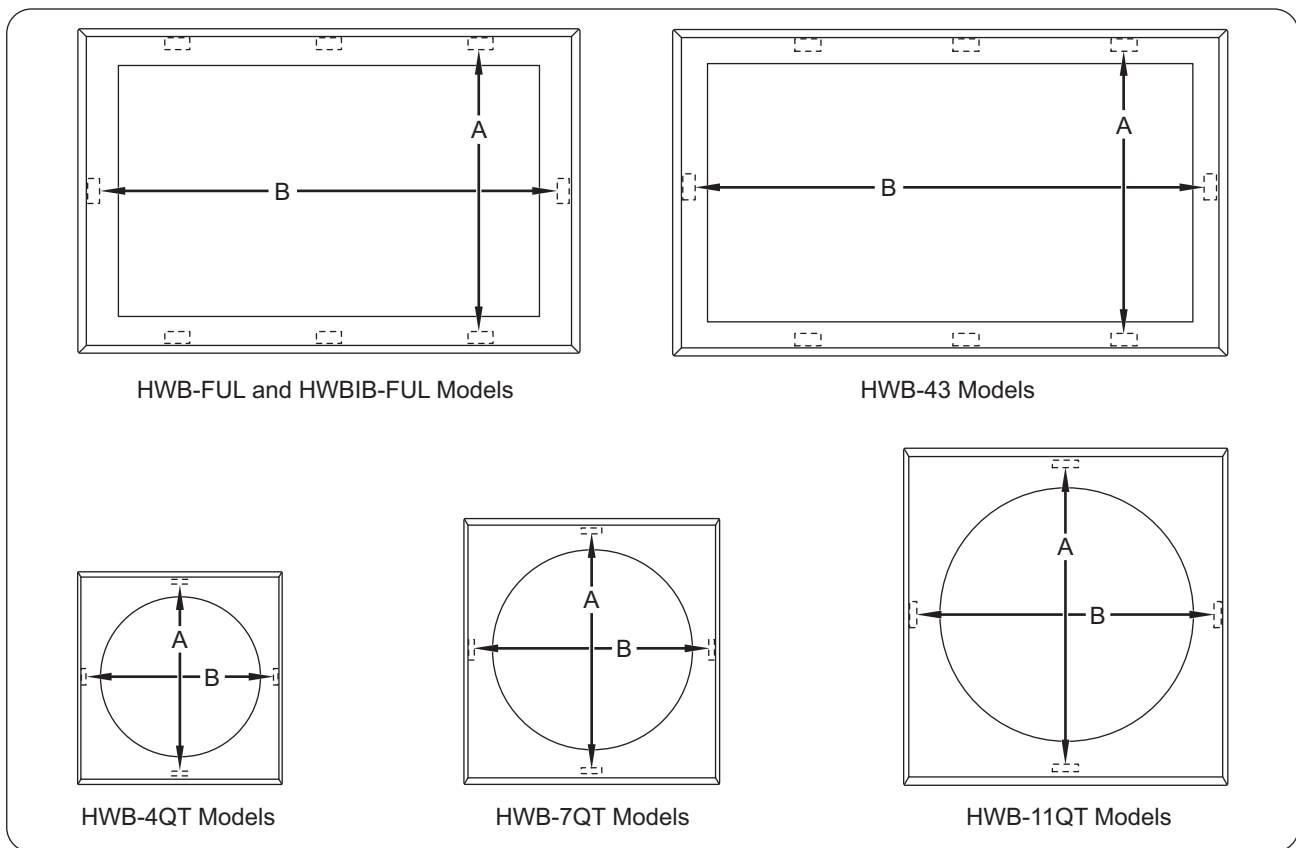

Figure 24. Combustible Countertop Mounting Flange Templates
1. Cut the appropriate opening in the countertop (see Figure 24 for size requirements).